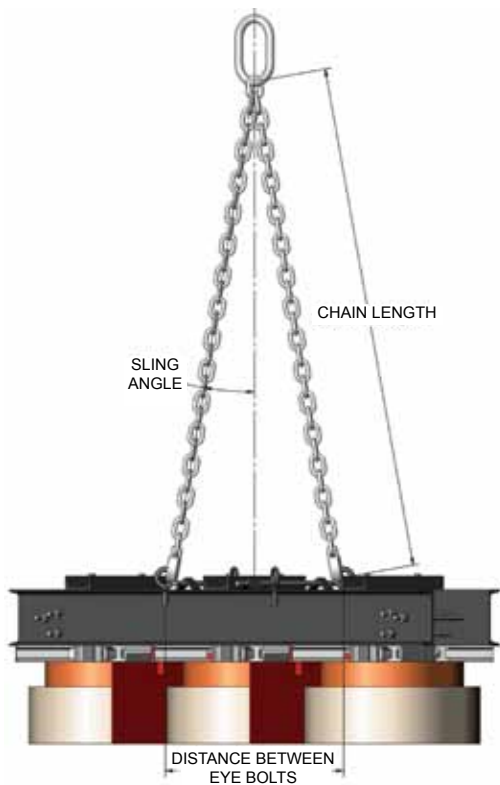

FIGURE 6
(5) Ensure that the sling angle is less than 10 degrees (see figure 6 & table 1).